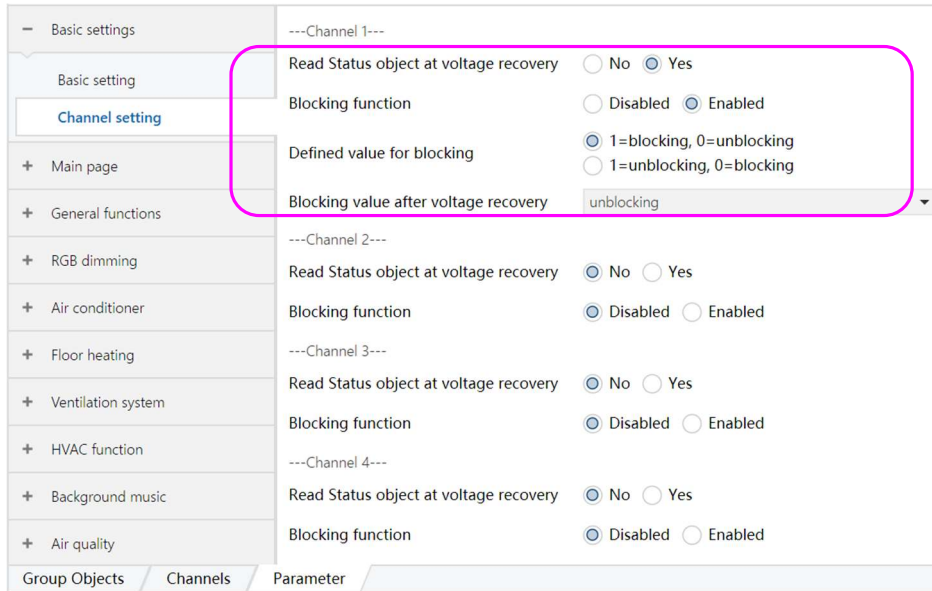

Figure 6.1.3
- ① "Blocking function", options: blocking = 1, unblocking = 0; blocking = 0, unblocking = 1
- ② "Blocking value after voltage recovery", options: unblocking, blocking, as before voltage failure. The options in the red box as shown in Figure 6.1.3 are displayed.